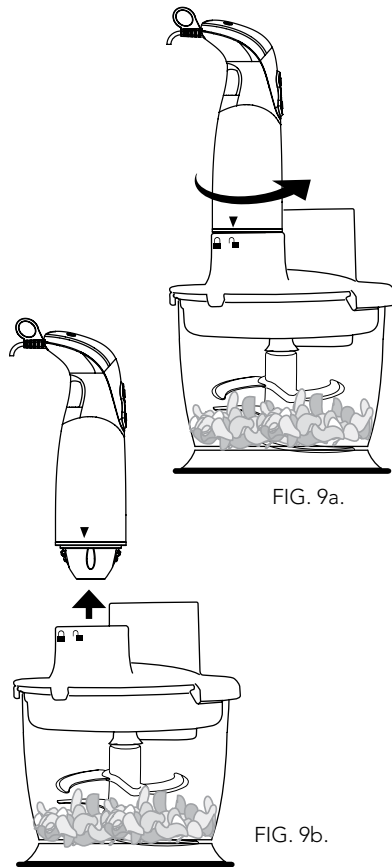
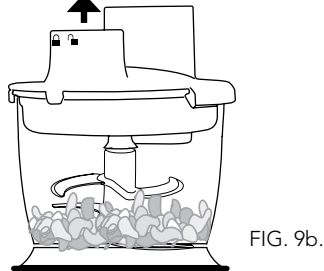

FIG. 9a.
FIG. 9b.
- To stop the THUNDERSTICK™ take your fingers off the switch button (I) or (II). Unplug the appliance from the power outlet.
- Turn the motor appliance counter-clockwise until the arrow mark on the motor appliance is aligned with the unlocked symbol (⌚) on the food processor lid as illustrated in Fig. 9a. Detach the motor appliance from the lid as illustrated in Fig. 9b.